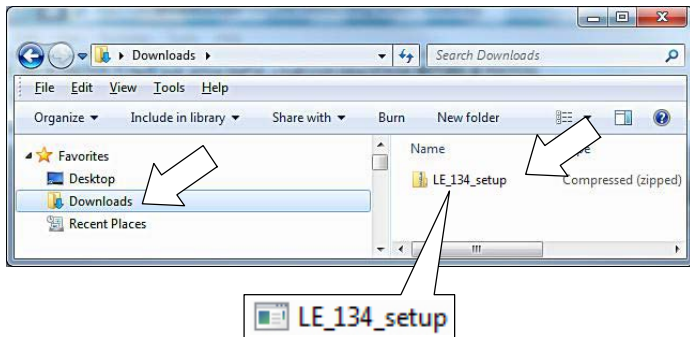

Fig. 20
- Open the “Downloads” folder and locate the “LE\_134\_setup” zip file. Open the zip file and click on the “LE\_134\_setup” file to install the application software on your computer (Figure 20).